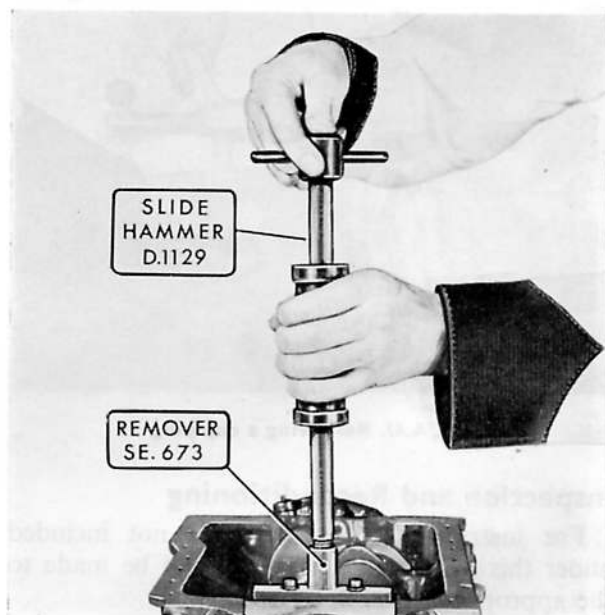

Fig. A.46. Removing the rear main bearing cap. This method can also be used for the front cap removal
16. Mark the main bearing caps and remove the caps and bearings. The front and rear caps can be withdrawn as in Fig. A.46. Lift out the crankshaft and remove the bearings.